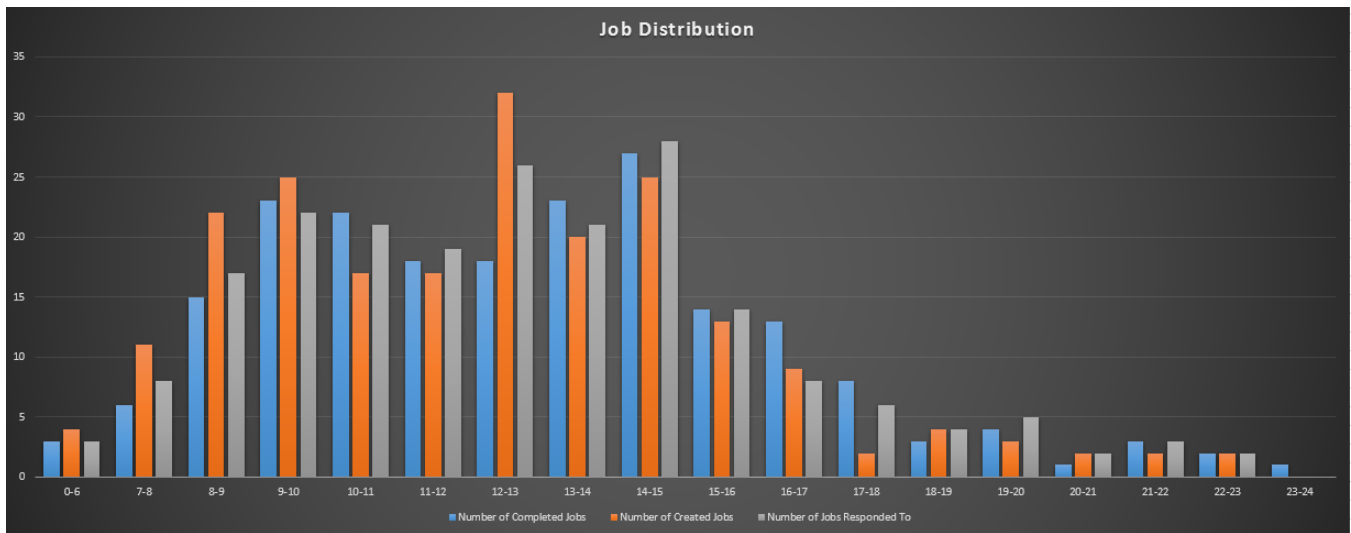

Figure 6.5: **Job Distribution:** This graph shows the Number of Jobs created/completed/responded to in the time interval.
- Figure 6.5: Total Number of Jobs Complete (Page 9)